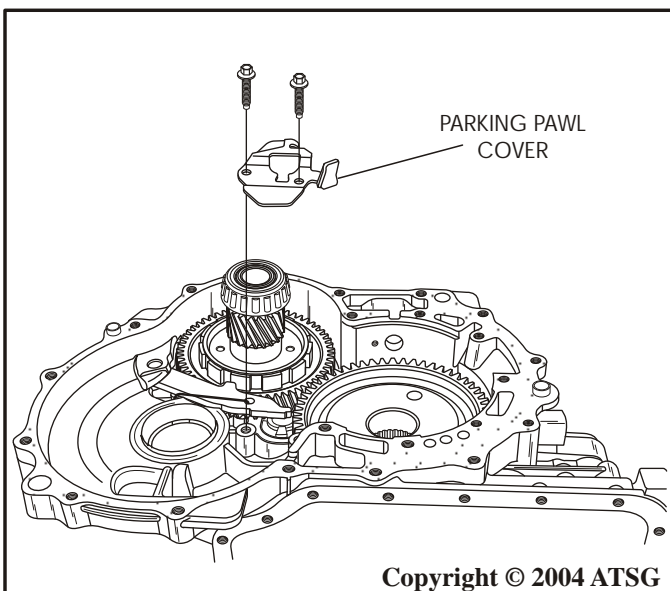

Figure 50
50. Remove the two parking pawl cover retaining bolts, as shown in Figure 50, and remove the parking pawl cover.